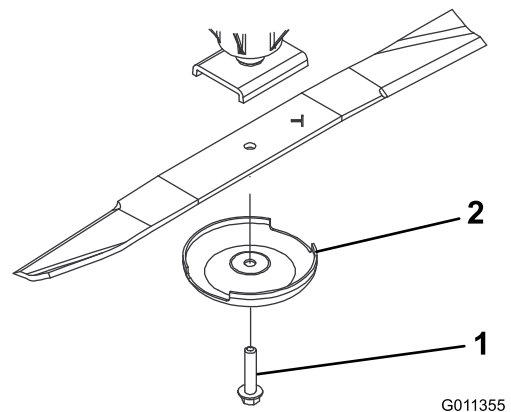

Figure 74
2. Grasp the end of the blade using a rag or thickly padded glove. Remove the blade bolt, anti-scalp cup, and blade from the spindle shaft (Figure 74).
3. Install the blade, sail facing toward the mower deck, with the anti-scalp cup and blade bolt (Figure 74).